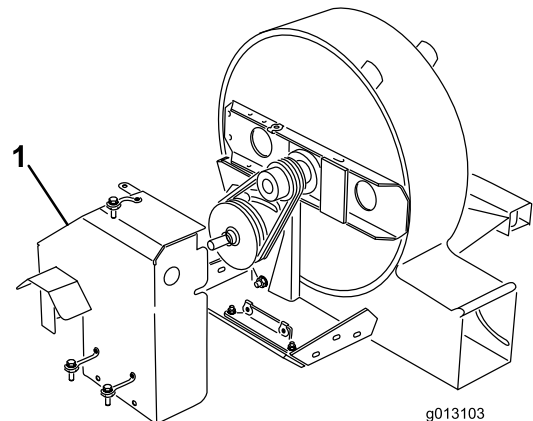

Figure 7
1. Loosen the 3 bolts securing the belt guard to the blower frame (Figure 7). Remove the belt guard.
6. Install the belt guard and tighten the mounting fasteners (Figure 7).